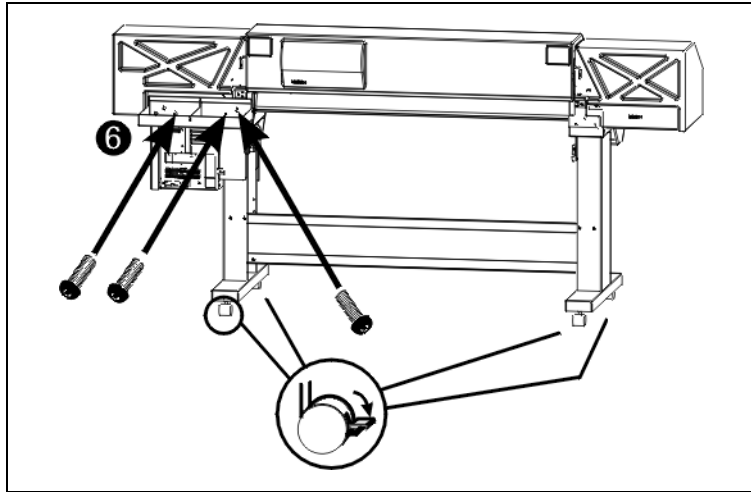

Fig. 1-3. Attach the ink tray
8. Using three of the screws provided, attach the Big Ink Delivery System tray **6**. (See Fig. 1-3.)